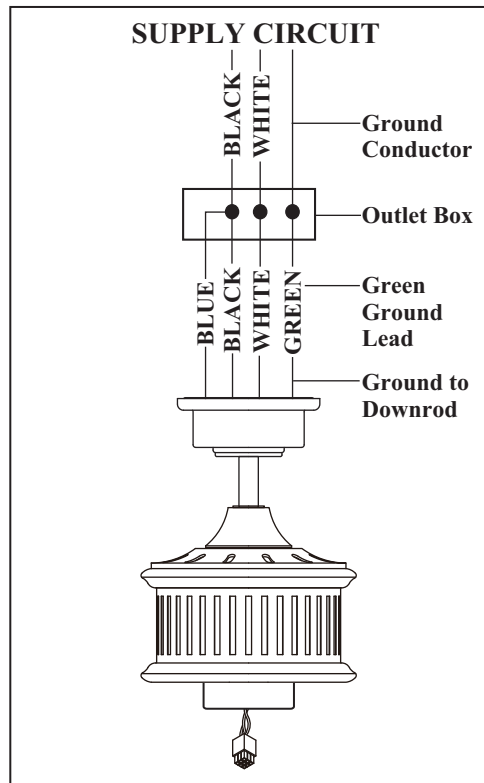

Figure 14
1. Connect the ground conductor of the 120V supply (this may be a bare wire or a wire with green colored insulation) to the green ground lead(s) of the fan. (Figure 14) When using standard ceiling mounting, there are two green grounding leads; one from the ceiling mounting bracket and one from the ball/downrod assembly. When using “Flushmount Installation” mounting, there is only one green ground lead from the ceiling mounting bracket since the ball/downrod assembly is not used.
2. Connect the fan motor white wire to the supply white (neutral) wire using a wire nut. (Figure 14)
3. Connect the fan motor black wire to the supply black (hot) wire using a wire nut. (Figure 14)